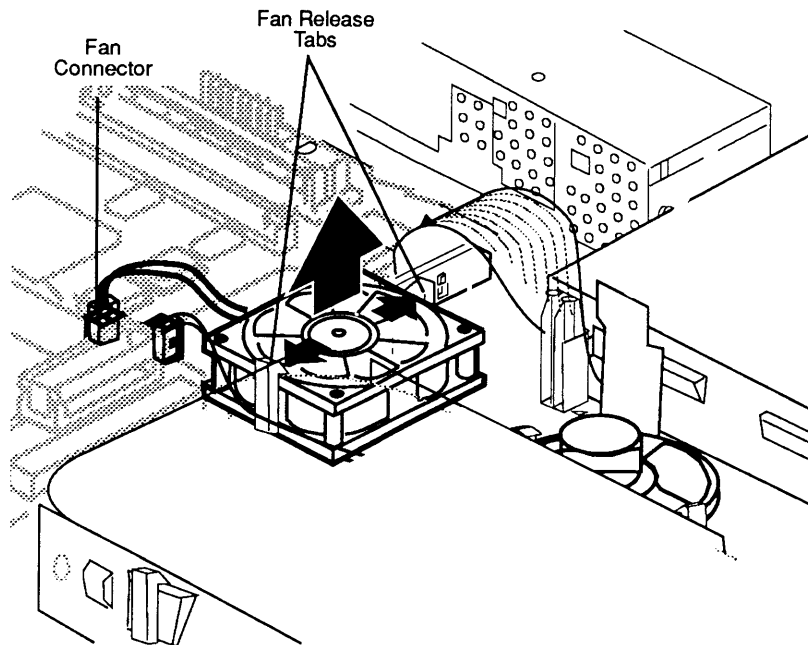

Figure 2-5 Removing and Installing the Fan
2. Disconnect the fan cable from the fan connector (J24) on the logic board (**Figure 2-5**).
3. Release the plastic tabs on the sides of the fan (**Figure 2-5**) and lift the fan to remove it.
1. Position the fan (logo side down) so that its cable reaches the fan connector (J24) (**Figure 2-5**).